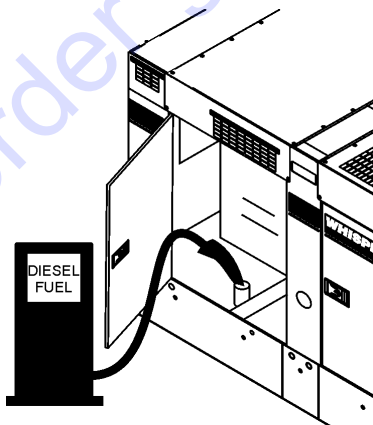

Figure 20. Fueling the Generator
- Open cabinet doors on the “right side” of the generator (from generator control panel position). Remove fuel cap and fill tank (Figure 20).